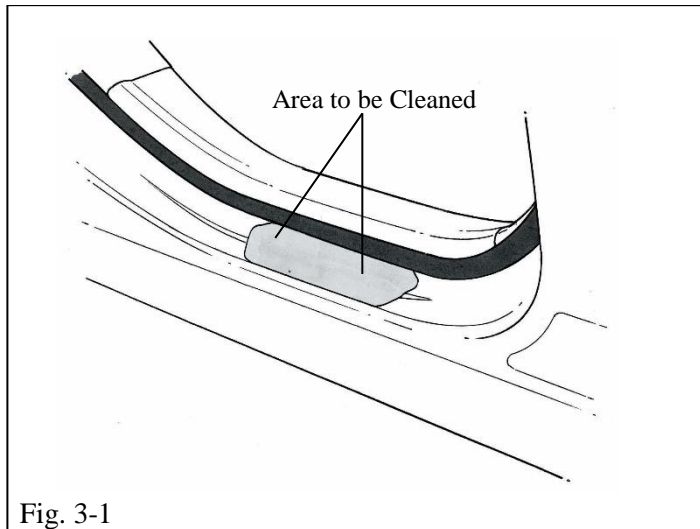

Fig. 3-1
- Clean and degrease rear door sill where protector is to be located with soap and water mixture. (Fig.3-1)